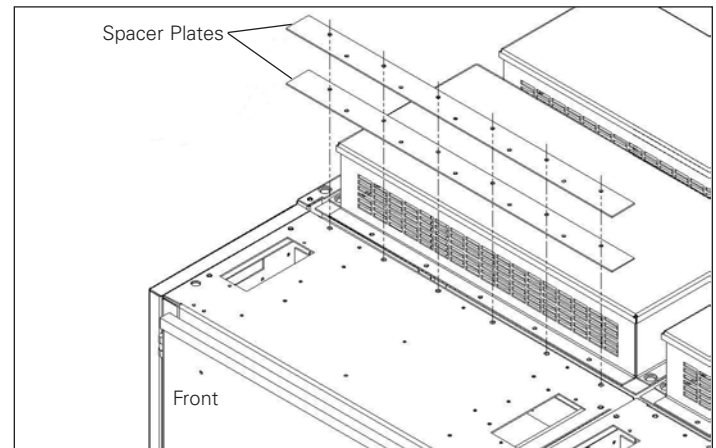

Figure 4. Installation of the Front Module Spacer Plates
- A Remove the existing hardware from the rear of the front module roof sheet and place two plenum spacer plates over the holes where the hardware was removed (See **Figure 4**). Set aside the hardware for use later to install the plenum. Repeat this operation for all front modules in the lineup.